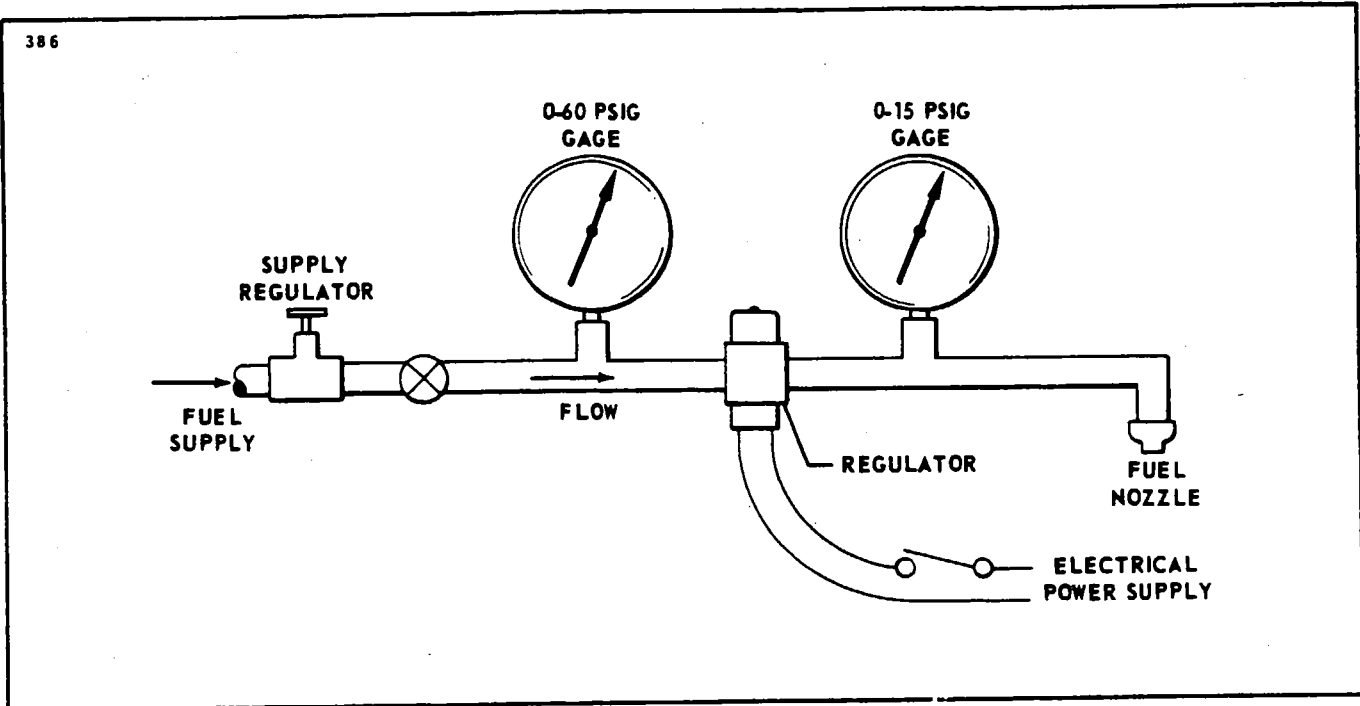

Figure 13-13. Test Setup - Fuel Regulator
1. Install the regulator in a test stand similar to that shown in Figure 13-13.